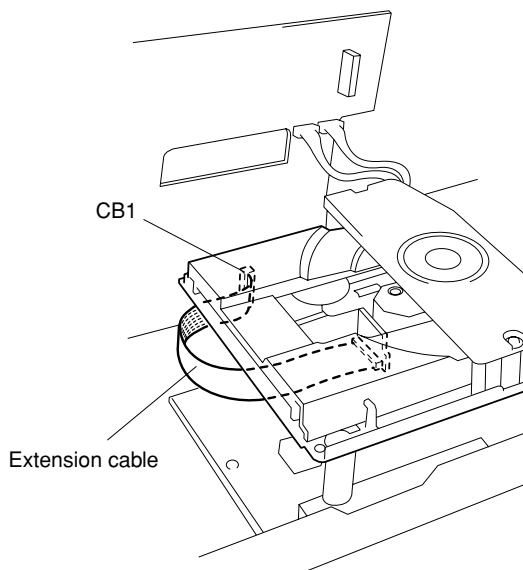

Fig. 5
- h. Connect CB1 as shown in Fig. 5.